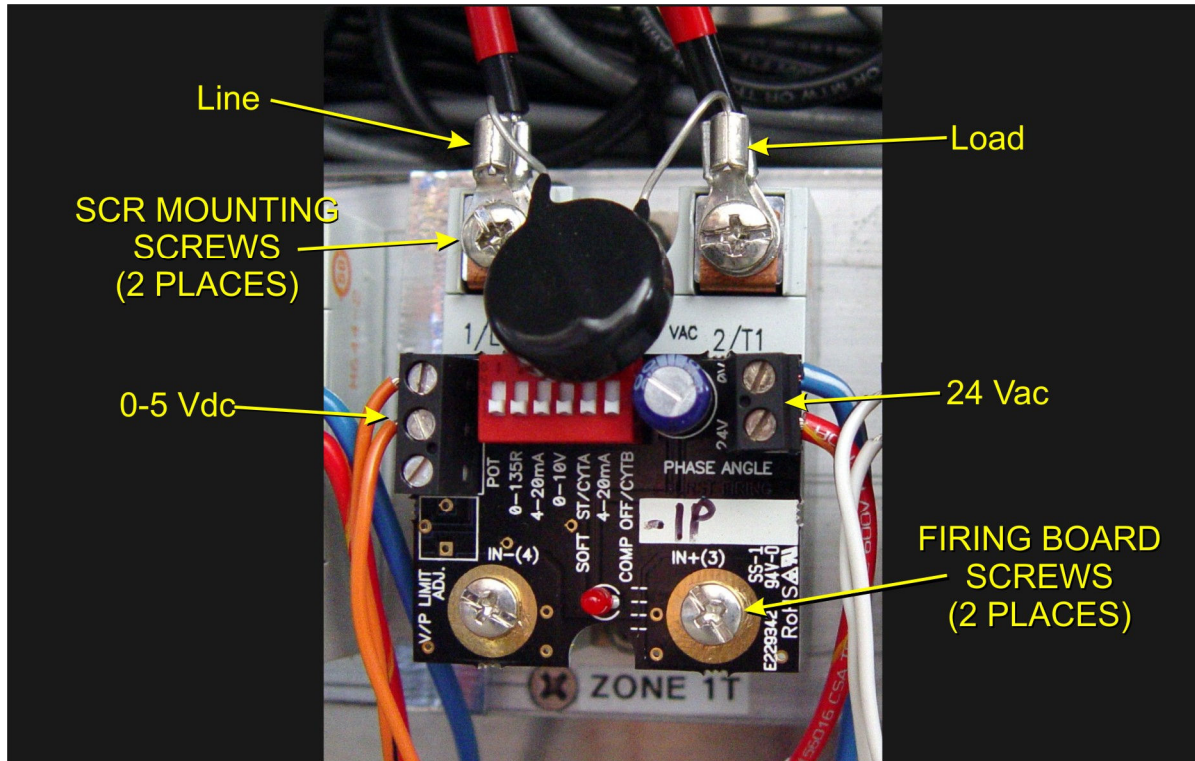

Figure 4-44 SCR installed
To remove the entire SCR assembly, disconnect the 10Vdc and the 24 Vac wire pairs. Unscrew the Line and Load wires. If you are only replacing the firing board, remove the (2) firing board screws. If you are removing the entire assembly, remove the (2) SCR Mounting screws. See **Figure 4-44 SCR installed**